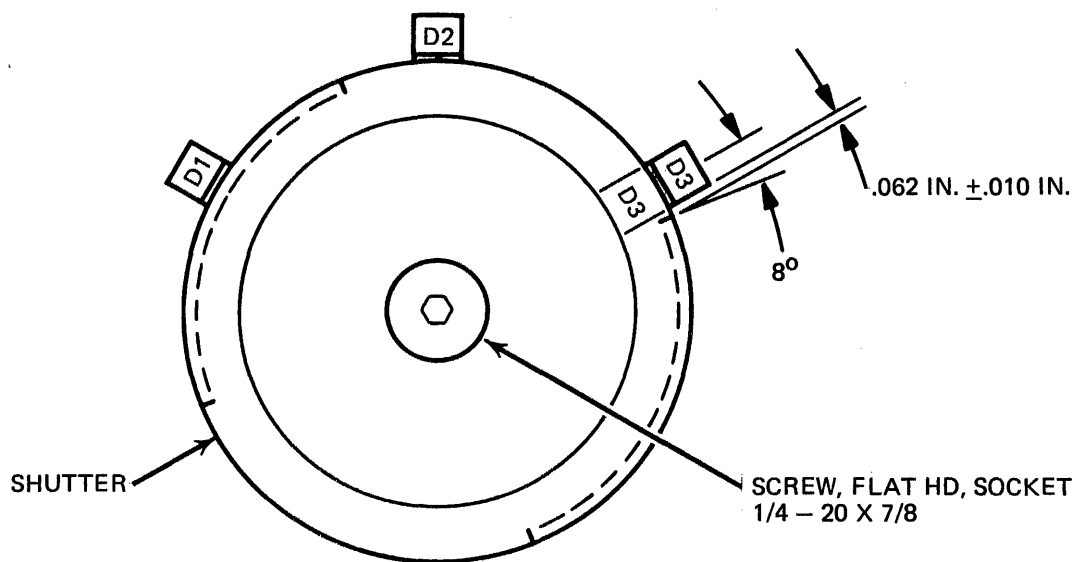

Figure 5-27. Shutter Adjustment — Commutator Board
- H. Ensure that the spindle does not move while adjusting the interrupter cup as shown in Figure 5-27.
- J. Rotate the spindle shaft approximately 45 degrees, and repeat Step D. Ensure that the phasing is correct (ref. figure 5-27).